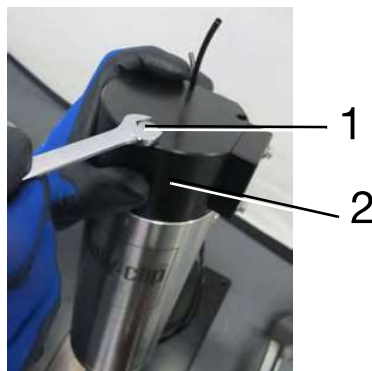

Fig. 1-8 1 Screw
Under the valve head (2, Fig. 1-8), a piston and punch are held under pressure by a compression spring. The valve head will spring towards you when the screws (1) are loosened.